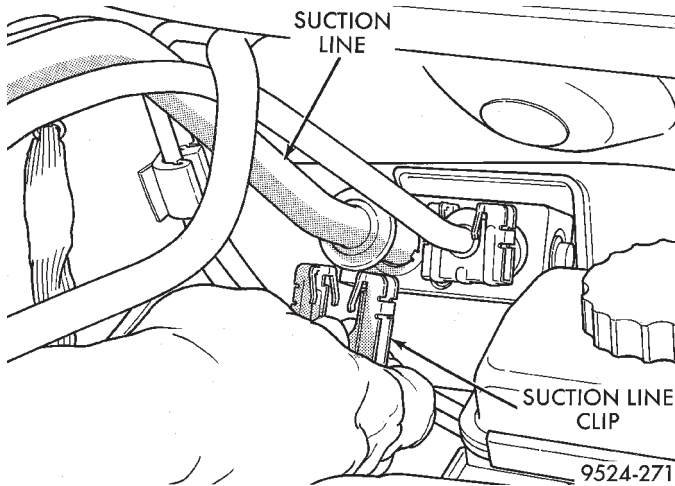

Fig. 71 Quick Connect Clip
- (3) Remove quick connect clip (Fig. 71). Disconnect quick connect at expansion valve end using Special Tool Kit 7193.